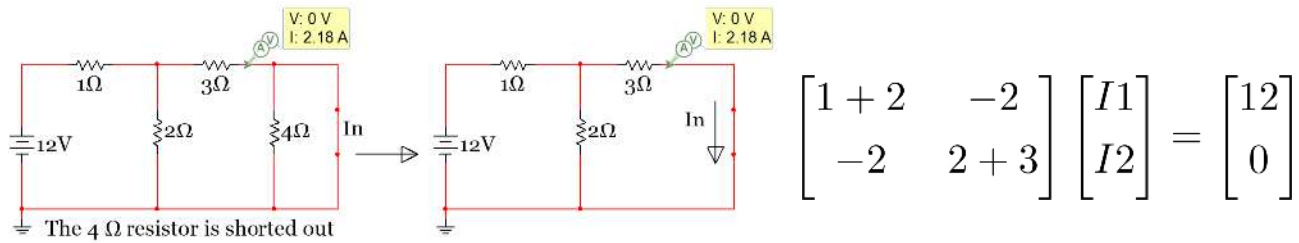

Figure 2.62: Sub-Problem 2 - I_N Calculation – Used in Method 2 to determine $R_{th} = V_{th}/I_N$
- The Mesh Matrix in Figure 2.62 can be solved to give $I_2 = 2.182 \text{ A}$ and $I_2 = \underline{I_N = 2.182 \text{ A}}$